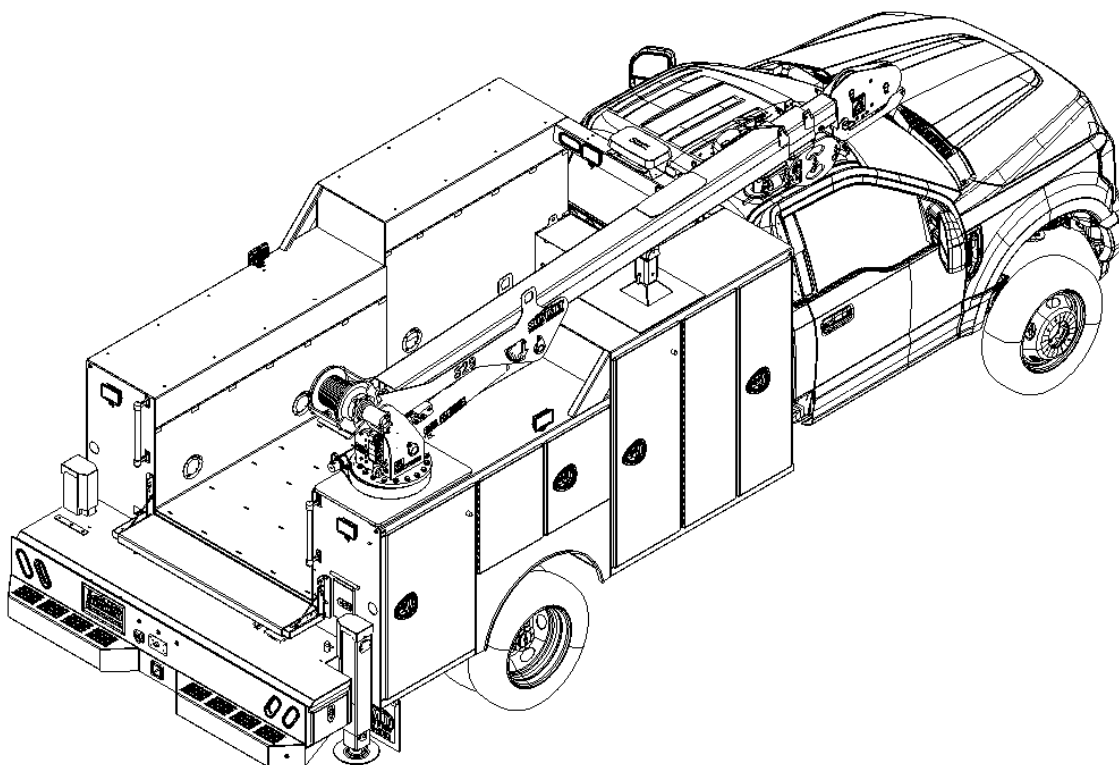

Figure 3-2.
Proper torque is critical for safe and effective performance of bolts and the crane as a whole. Figure 3-2 shows required installation torques for various sizes of non-plated Grade 5 and Grade 8 Fasteners; these bolts are black oxide finish only and are installed without lubricants. Figure 3-3 shows required adjustments to standard torque values for various bolt lubricants, coatings, and finishes. Refer to metric equivalent torque specification chart for metric fasteners.
U.S. BOLT TORQUE SPECIFICATIONS (Figure 3.2)
requirements in Figure 3-2. Bolt torque of pedestal bolts must follow the pattern procedure as described in Section “Crane Pedestal & Rotate/Base Bolt Installation Torque Pattern”.
5. Inspect wire rope (Figure 3-2, Item 1). See Wire Rope Daily Inspection.
7. Make sure outriggers (Figure 3-2, Item 4) operate as specified.
2. Visually check structural components such as welds and fasteners for cracks, breaks, looseness, or other damage. If loose, broken, or missing bolts are found, all bolts in the affected pattern must be replaced with new fasteners of proper size, grade, and torques to factory specifications in accordance with the requirements in Figure 3-2 and 3-3. Bolt torque of pedestal bolts must follow the pattern procedure as described in Section “Crane Pedestal & Rotate/Base Bolt Installation Torque Pattern”.
3. Visually check structural components such as welds and fasteners for cracks, breaks, looseness, or other damage. If loose, broken, or missing bolts are found, all bolts in the affected pattern must be replaced with new fasteners of proper size, grade, and torques to factory specifications in accordance with the requirements in Figure 3-2 and 3-3. Bolt torque of pedestal bolts must follow the pattern procedure as described in Section “Crane Pedestal & Rotate/Base Bolt Installation Torque Pattern”.